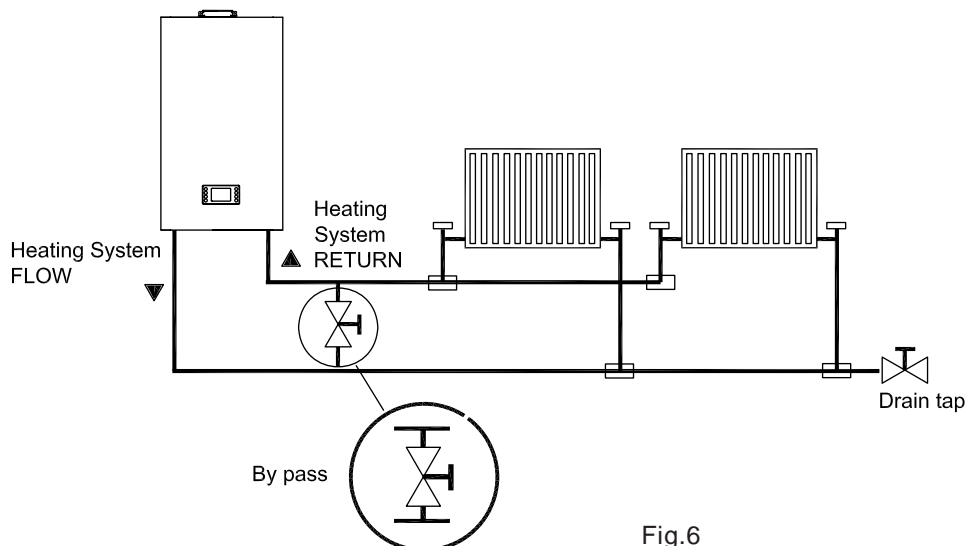

Fig.6
**This appliance is designed to work on a two pipe system as shown in fig.6.**
If the system has thermostatic radiator valves on all radiators, or two port valves, then a bypass circuit must be fitted with an automatic bypass valve to ensure a flow of water should all valves be in the closed position (fig. 6).